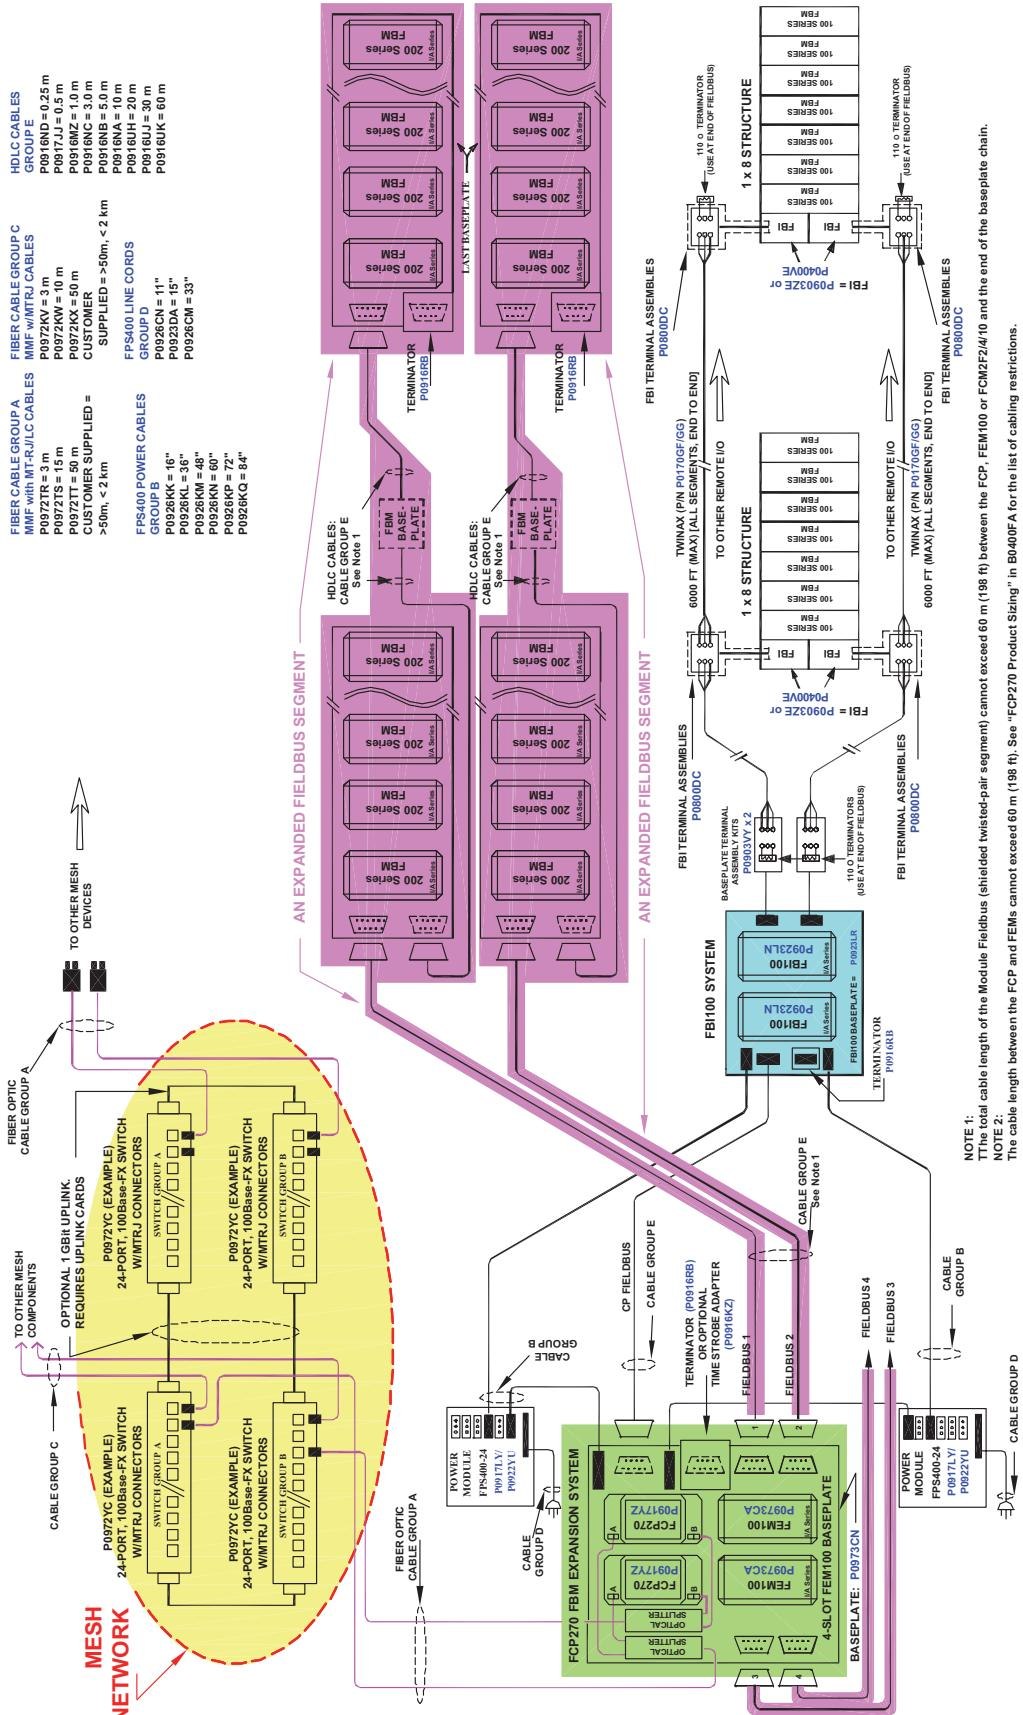

Figure B-3. Overview for Dual Baud Cabling (FCP270 to FEM100 and FBI100)
- ◆ Figure B-3 “Overview for Dual Baud Cabling (FCP270 to FEM100 and FBI100)” on page 96